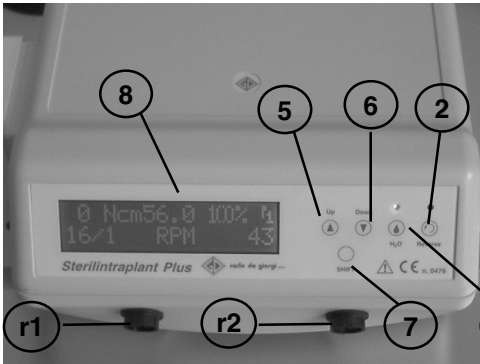
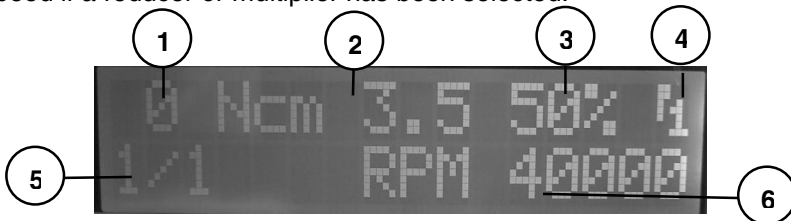

Fig. 6
Fig. 8
The appliance features the following control devices on the front panel (Fig. 6):
Figure 8 shows the data that appear on the display as described below:
- 3) select the program number by positioning the cursor using the "shift" key (7, Fig. 6) in field 1 shown in figure 8, and then using the "Up ▲" and "Down ▼" keys until obtaining the program required;
To edit a program (see Figs. 6 and 8): position the cursor on the "program n°" field and use the "Up ▲" and "Down ▼" keys to select the number of the first free or unused program.